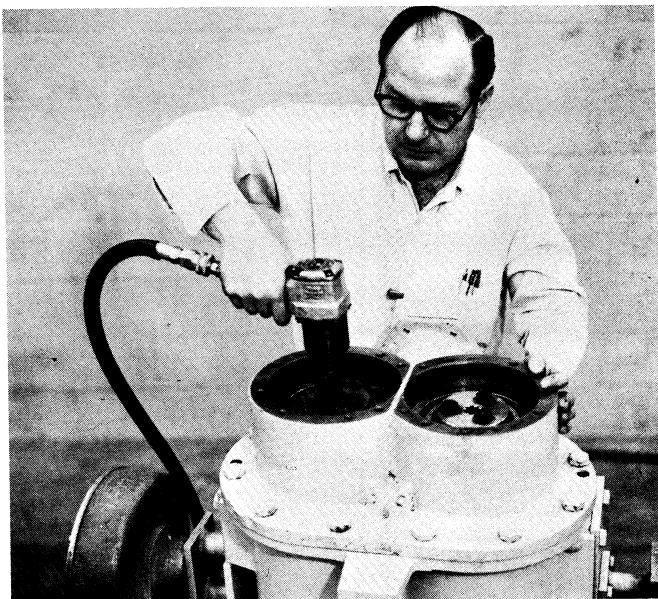

Figure 30
18. Install bearing retainer plates and referring to Table II, torque place bolts (use new bolts each time unit is assembled) to 150 lbs. ft. Refer to Figure 30.